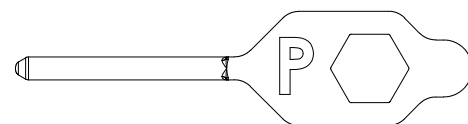

Figure 5. Configuration tool for sliding the configuration switch.
- A plastic configuration tool, see figure 5.